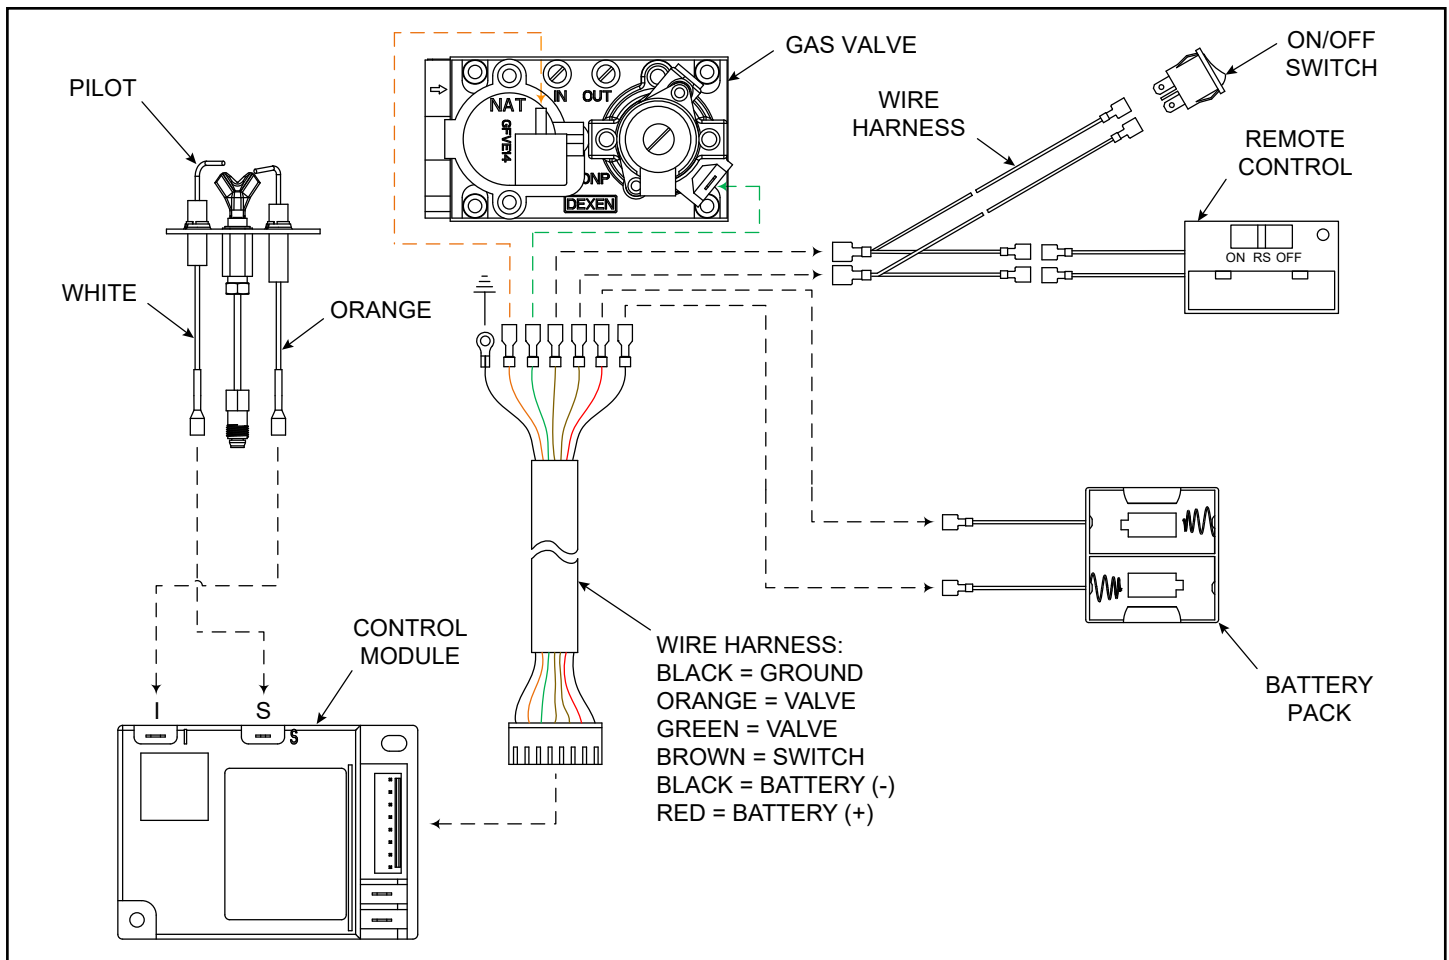

Figure 6.1 IPI Wiring Diagram
- The intermittent pilot ignition system (IPI) on the Stadium series gas log set comes standard with an integrated battery pack, that holds (2) D size batteries.
- An ON/OFF Switch and Remote Control are supplied with the appliance. The Remote Control can be incorporated into this system by connecting to the remote switch wires as shown. See Figure 6.1.